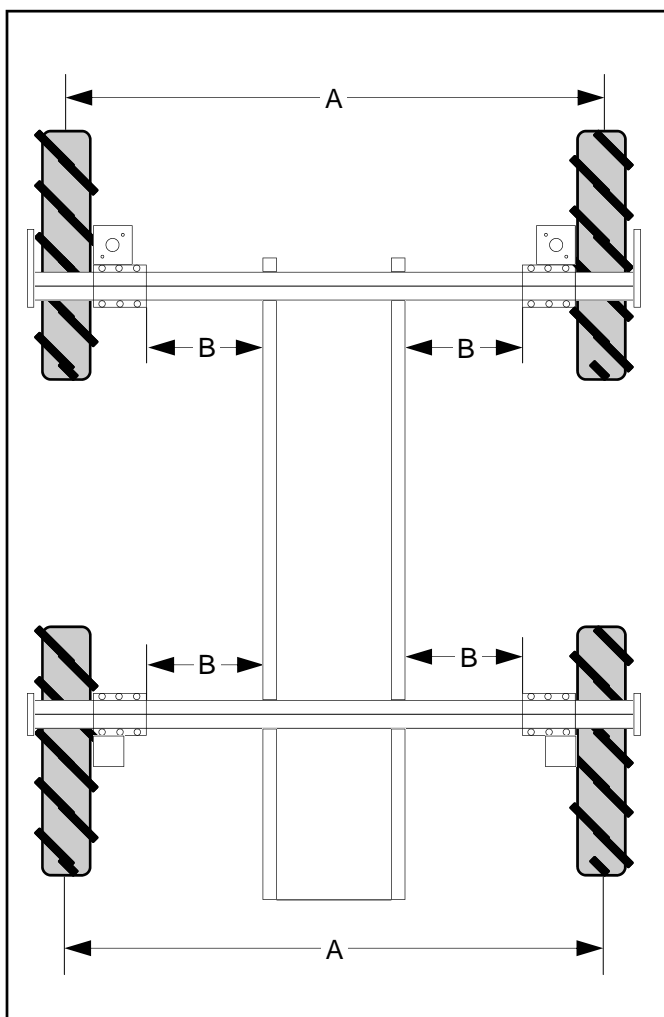

FIG 4.7
12. Repeat the above procedures to adjust and set the opposite side legs. When finished, all four legs should be the same distance from the mainframe (fig. 4.7, dimension B).